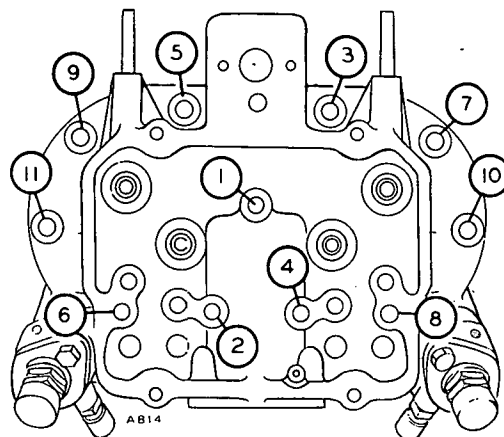

FIGURE 50. HEAD TIGHTENING SEQUENCE
5. Install the head assembly and gasket to the cylinder block. Tighten the head bolts to 44 to 46 ft. lbs. following the sequence in Figure 50.